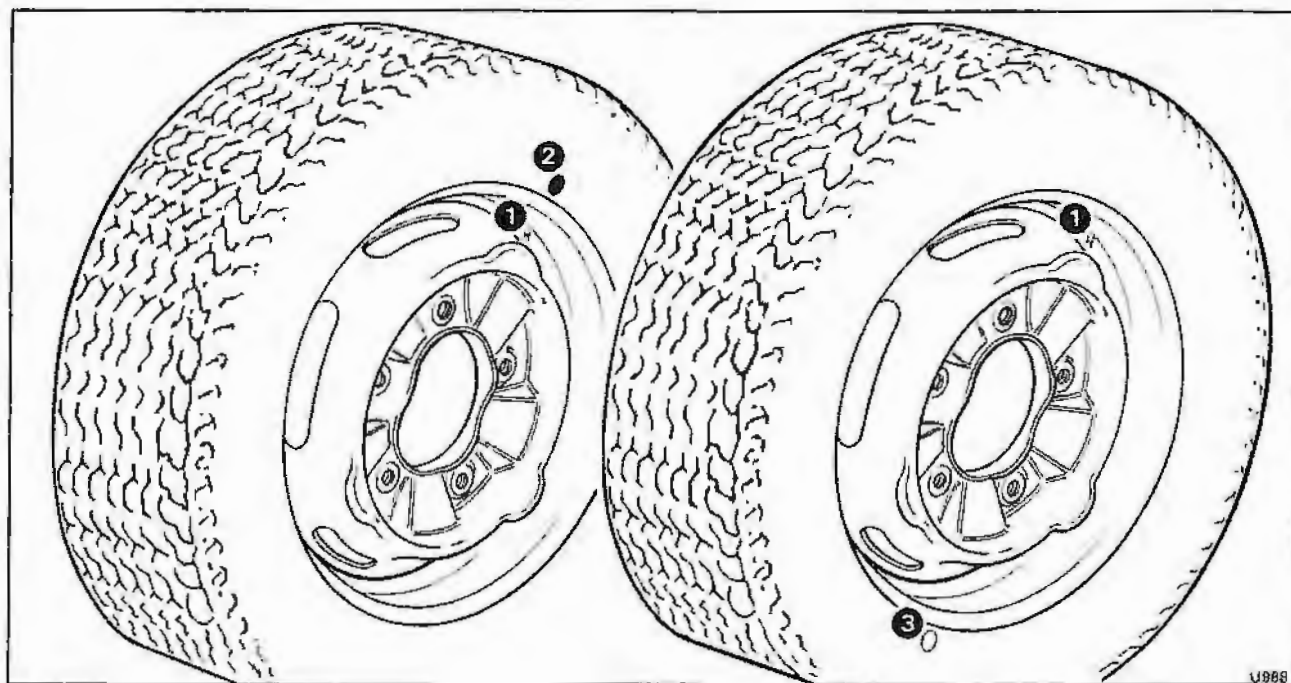

Fig. R3-2 Wheel and tyre alignment markings
5. Fit the tyre to the wheel, ensuring that the force variation mark, indicated by a green paint spot on the sidewall, is aligned with the letter 'H' stamped on the wheel rim (see fig. R3-2).
Note Certain tyres are marked with a white paint spot. These tyres should be positioned with the white spot diametrically opposite the letter 'H' stamped on the wheel rim (see fig. R3-2). Any additional colour spot markings should be ignored as they are merely used by tyre manufacturers for inspection purposes.